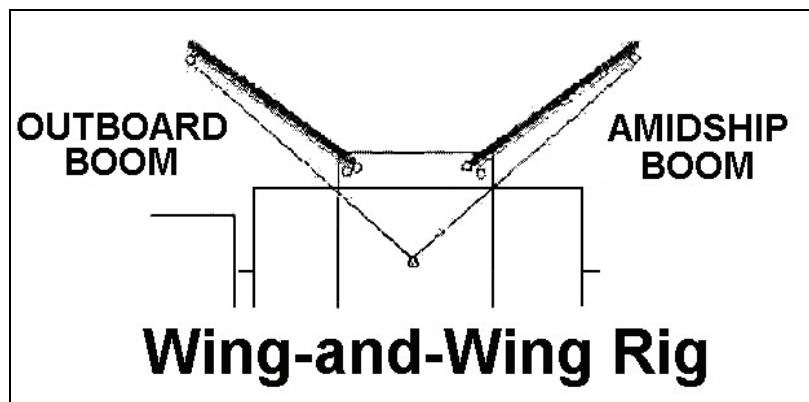

Figure 3-32. Wing-and-Wing Standard Cargo Rig
3. Rig a wing-and-wing rig (see Figure 3-32).